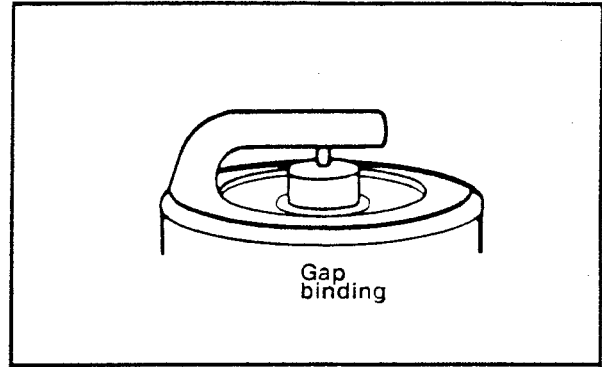

Figure 4-20. Gap Binding
- See Figure 4-20. Lead or carbon particles wedged or fused between the electrodes are caused by: